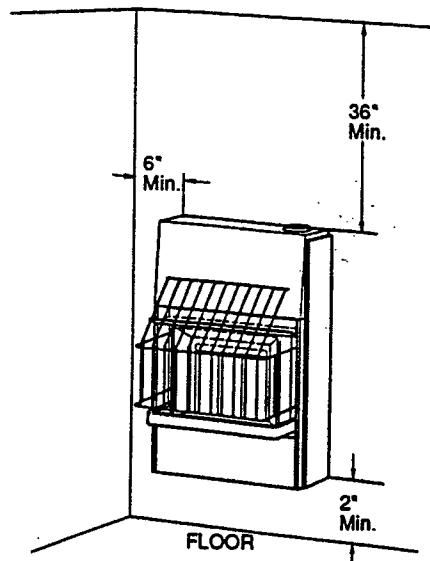

Figure 1 - Clearances
4. This heater has been designed for wall mounting. The clearances from the heater to combustible surfaces **MUST NOT** be less than shown in Figure 1. These are absolute minimum clearances and greater clearances should be allowed wherever possible. The minimum floor clearance must be maintained above the top surface of carpeting, tile or other combustible covering. A minimum of 6 inches is required for both sides of the heater.
1. Install the four (4) mounting screws supplied, using the enclosed paper template for proper location of holes. Plastic anchors should be used when mounting heater to plaster walls. Be sure to provide minimum clearances from side walls, floor, and ceiling, as shown in Figure 1.